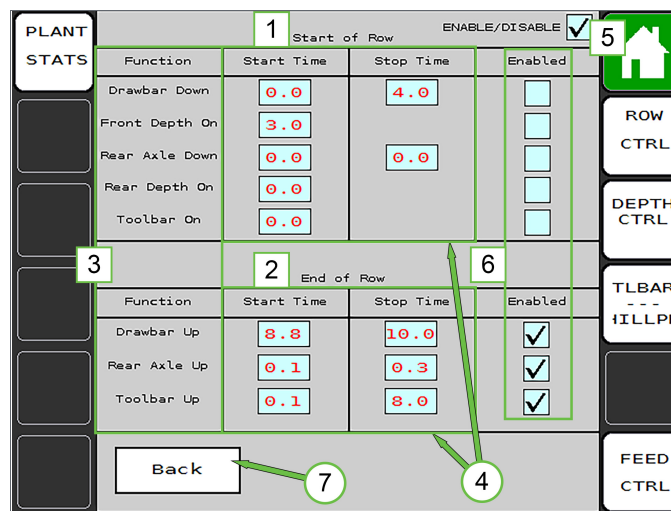

Figure 18
On the *Start/End of Row Setup* screen, adjust settings in the (1) *Start of Row* and (2) *End of Row* sections to control the time required for individual start/end of row functions to start/stop at the start and end of rows. (see Figure 18)